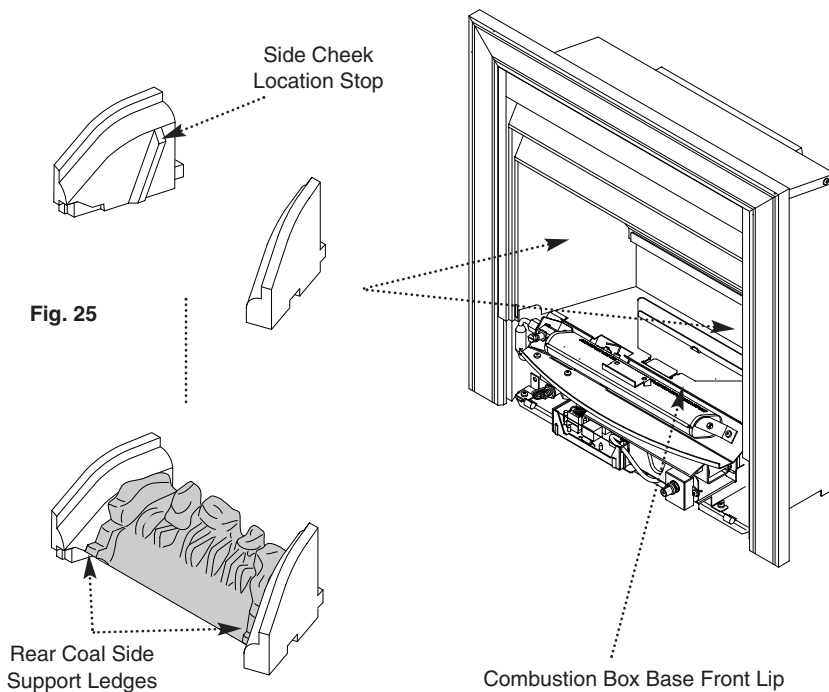

Fig. 26: Diagram showing the rear coal side support ledges and the combustion box base front lip.
4. Locate the front coal onto the rear coal side support ledges and behind the lip of the burner bracket (Figs. 26 & 27).